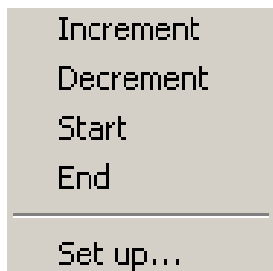

Fig. 10-63
3. Then click a sequence number to change the sequence of tool path. Or you can set the specific sequence number of a tool path unit by clicking the right mouse button on the original sequence number. The context menu displayed is shown in Fig. 10-63.